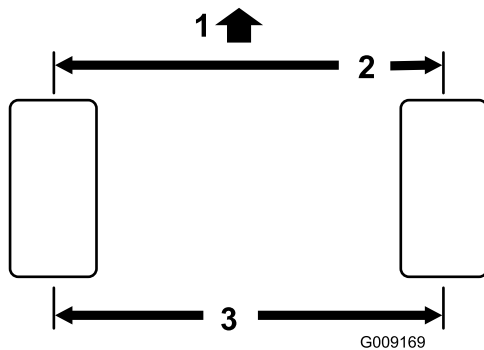

Figure 47
1. Measure the center-to-center distance (at axle height) at the front and rear of the steering tires (Figure 47).